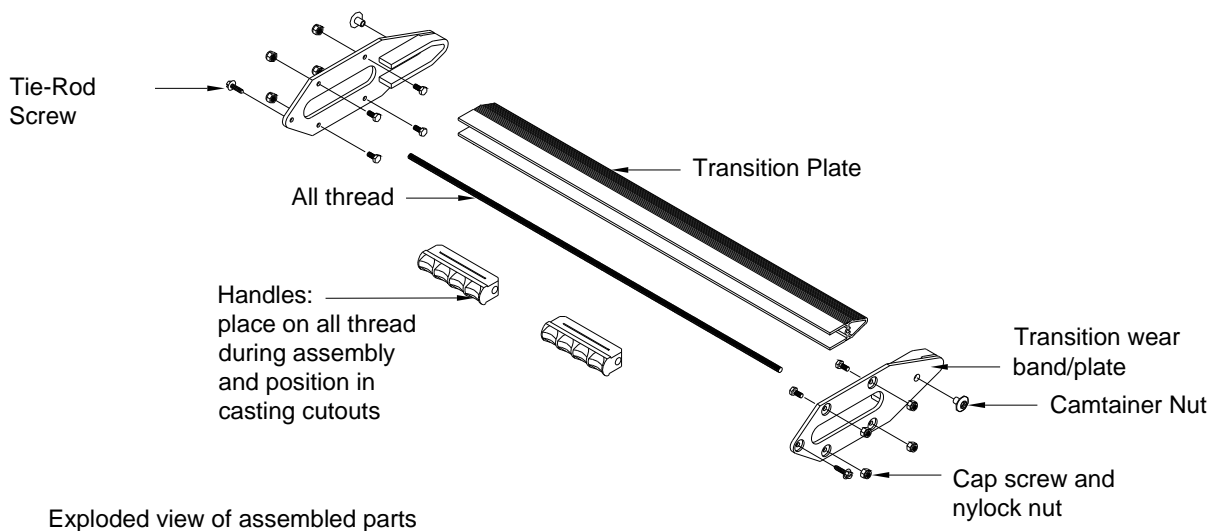

Figure 3
Your kit you should contain the following parts (See figure 3 on page 3 for an illustrated picture):
- a. Loosely assemble the new transition wear/plate band assembly, as shown in figure 3, except for the 1/4" fasteners.